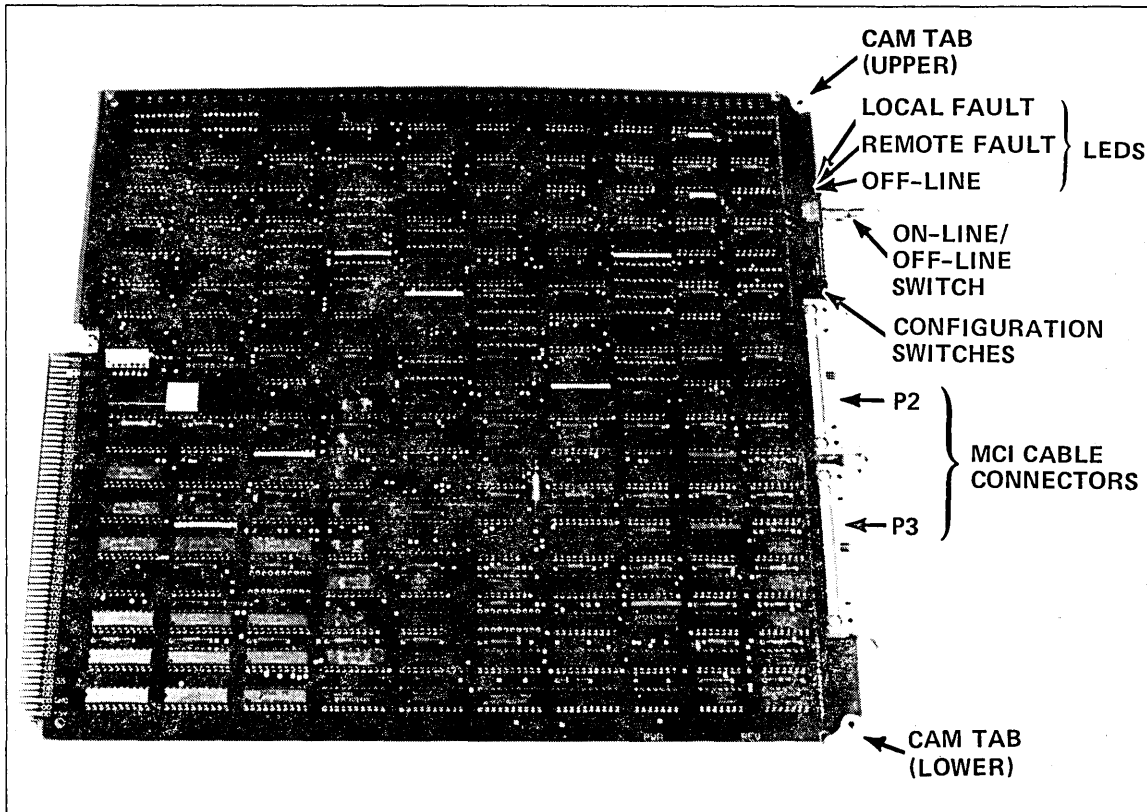

Figure 1-52. MCI Board
1. Unpack the MCI board, MCI cable assembly, the two channel cables, the equipment label, and the FCO label. (The board and cables are shown in figures 1-52 and 1-53.)